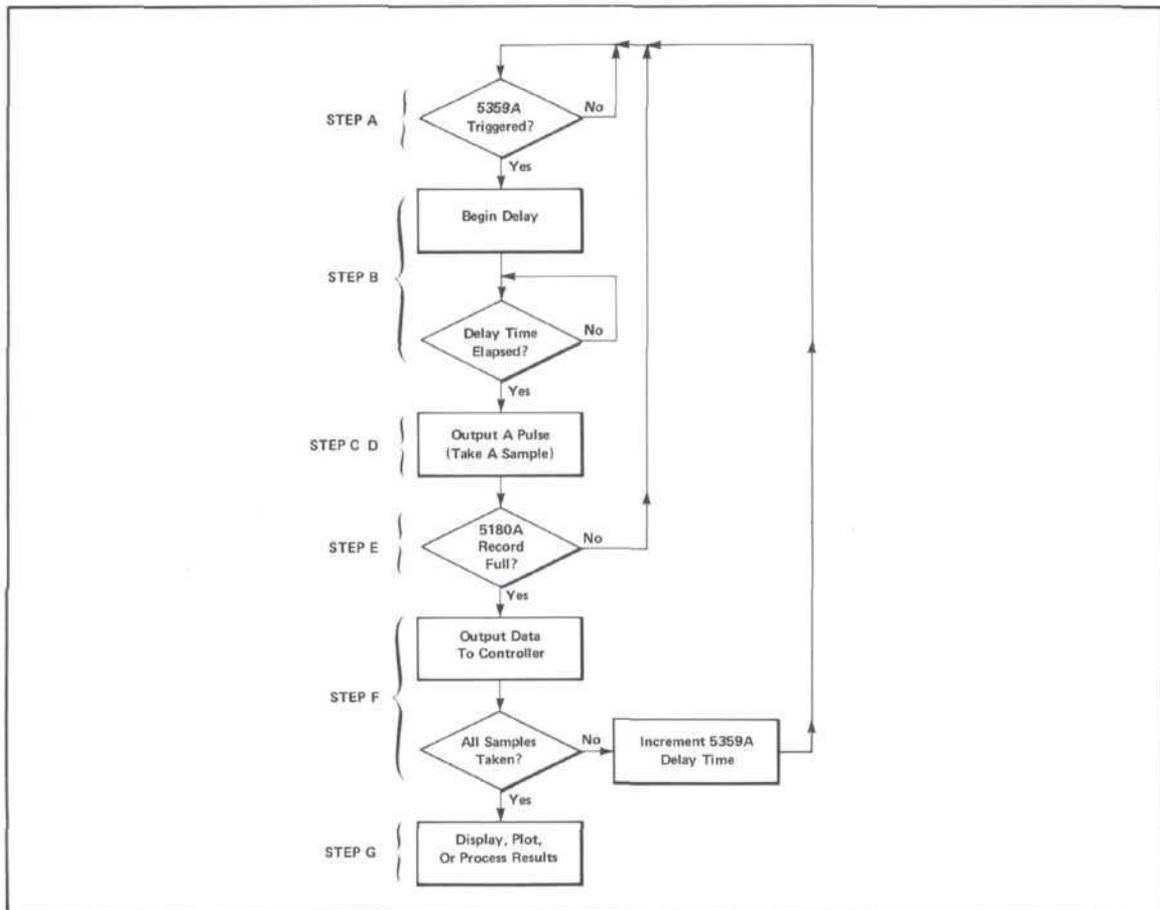
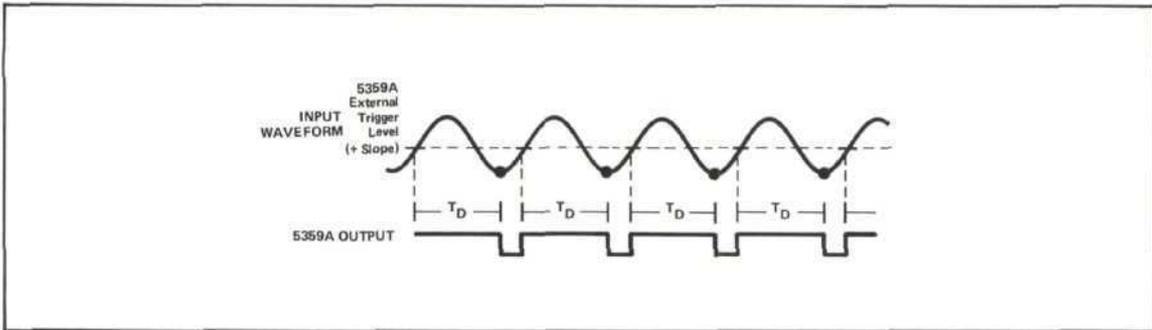

Figure 3. Flow diagram for measurement process.
Figure 4. Timing relationships for 5180A sampling system. T_D is 5359A delay time. • indicates the value of the input when the sample occurs.
The 9826 Controller oversees the entire measurement process. This sequence of steps is depicted in Figure 3. Figures 4 and 5 show the signal timing relationships.
6. Having verified that the 5359A output is causing the 5180A to sample, the final hardware step is to set the external trigger level on the 5359A. With input signal applied press the DELAY key on the 5359A. The 5359A display will blank, indicating that it's waiting for you to input a delay value. Press 10 (data entry section) followed by ns (units section). This entry specifies that the 5359A will output a pulse 10 nanoseconds after the occurrence of an external trigger (there is some additional fixed delay, but this isn't important). Use the external trigger level adjustment to set an appropriate external trigger level. To verify that an unambiguous trigger level has been chosen, view the captured waveform on the XYZ display. The waveform should be live and essentially a horizontal line. The display represents the data for one sample point of the repetitive input. Since all the data is being taken at the same delay time after the 5359A is externally triggered, you would expect the displayed waveform to be a horizontal line (see Figure 4). If it isn't horizontal, or if the 5180A isn't sampling, adjust the external trigger level on the 5359A.
- 5) High-speed or Normal acquisition mode. The normal acquisition mode uses the measurement procedure of Figure 3. The high-speed mode employs a slightly different procedure, using the 5180A's AUTO ADVANCE feature to sample up to 32 points before any data is output from the 5180A.